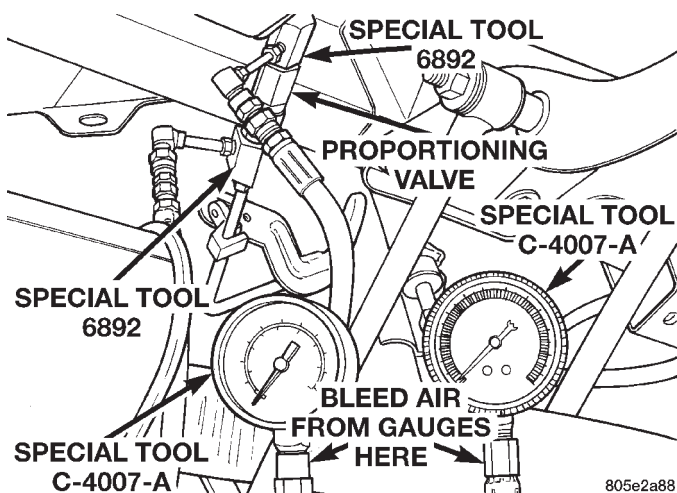

Fig. 23 Pressure Gauges Installed
(6) Install a Pressure Gauge, Special Tool C-4007-A into each pressure test fitting (Fig. 23). Bleed air out of hose from pressure test fitting to